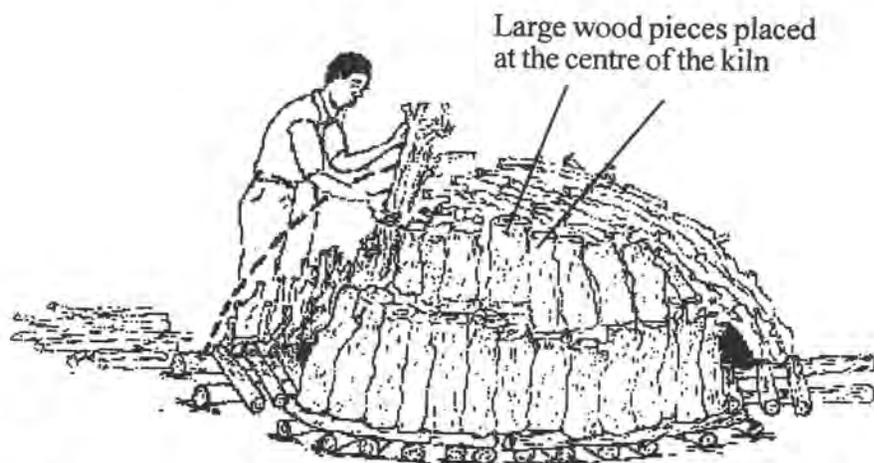

Figure 5.2: Stack wood pieces closely starting with the large pieces of wood at the centre of the kiln and the medium and small-sized pieces around.
3. Place the largest diameter pieces of wood in the centre standing upright and the medium- and small-sized pieces around them (Figure 5.2).